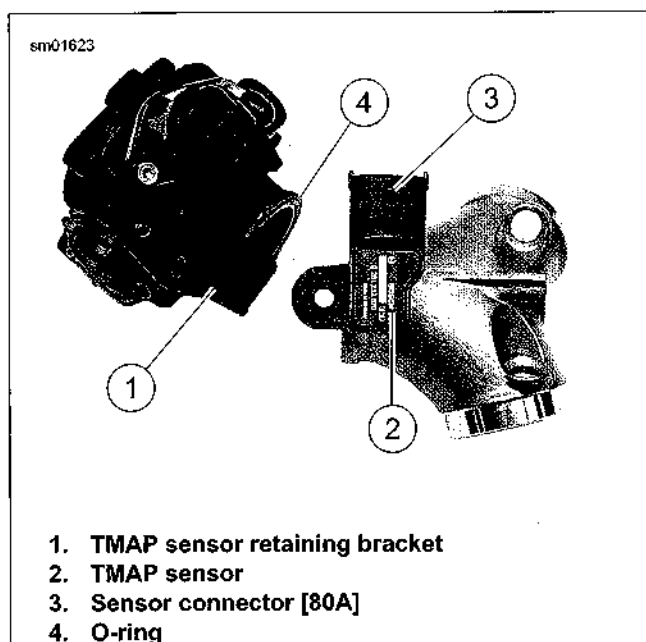

Figure 4-32. TMAP Sensor Removal/Installation
6. See Figure 4-32. Pull induction module away from intake manifold far enough so that the TMAP sensor retaining bracket (1) clears TMAP sensor body (2).
7. Unplug harness connector [80B] from TMAP connector [80A] (3).
3. See Figure 4-32. With a gentle twisting motion, insert sensor (2) into intake manifold with connector [80A] (3) facing rear cylinder head.
5. Inspect O-ring (4) between induction module and intake manifold for damage. Install **new** O-ring if necessary. Make